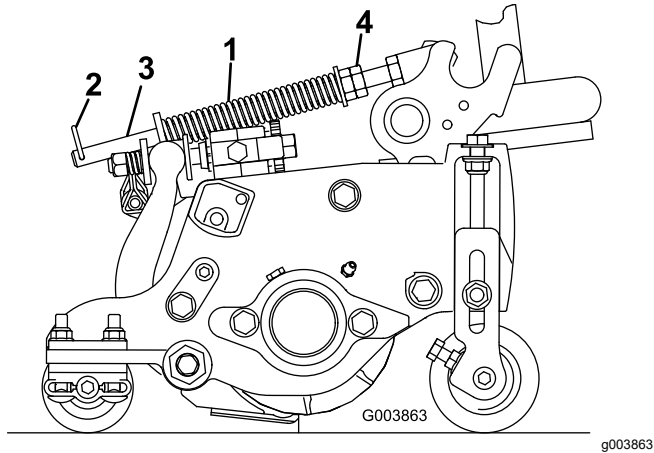

Figure 87
The turf-compensation spring transfers weight from the front to the rear roller (Figure 87). This helps
1. Make sure that the hairpin cotter is installed in the rear hole in the spring rod (Figure 87).
units or 15.9 cm (6.25 inches) for 7-inch cutting units (Figure 87).